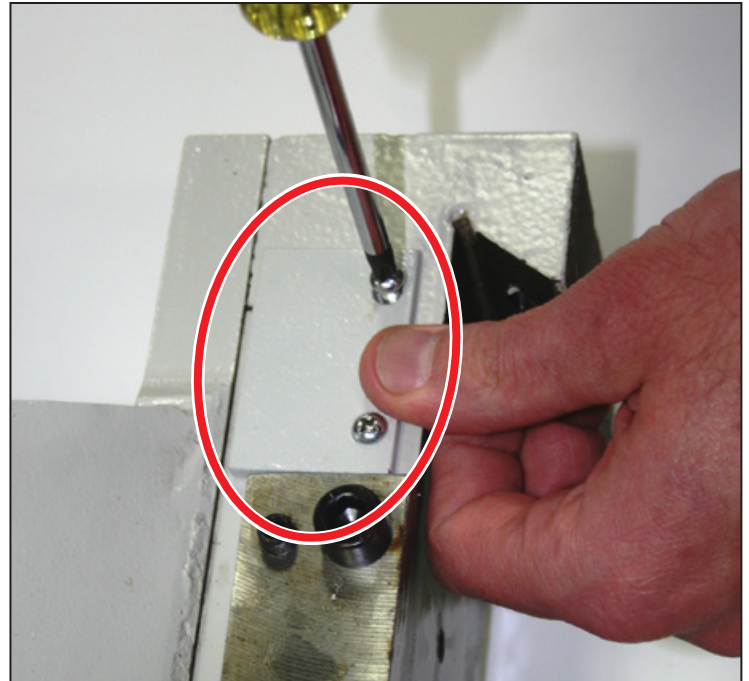

Figure 3
3. With the uninstalled tailstock on its side, attach the Limit Switch Flag (see **Figure 3**). This flag creates an end stop for the Z-axis Limit Switch (once tailstock install is complete).